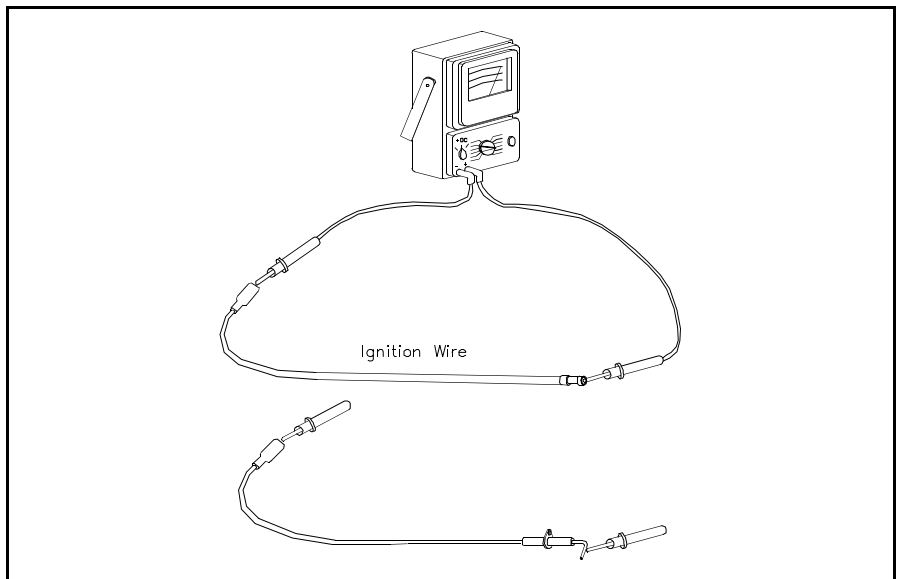

Figure 5.33 Continuity Check Of Electrode Wire
28. If the Ignition electrode did not send sparks to the Burner, check the electrode wire for continuity as shown in Figure 5.33. If Electrode wire shows continuity, proceed to next step.